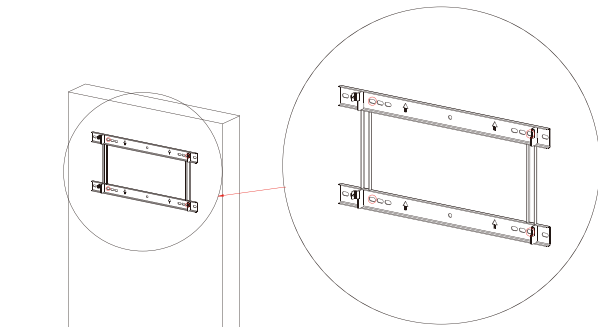

Figure 2.8 Stand Positioning
Step 3 Place the wall bracket on the wall where the system will be installed. And use a marker to locate the bracket as shown in Figure 2.8.